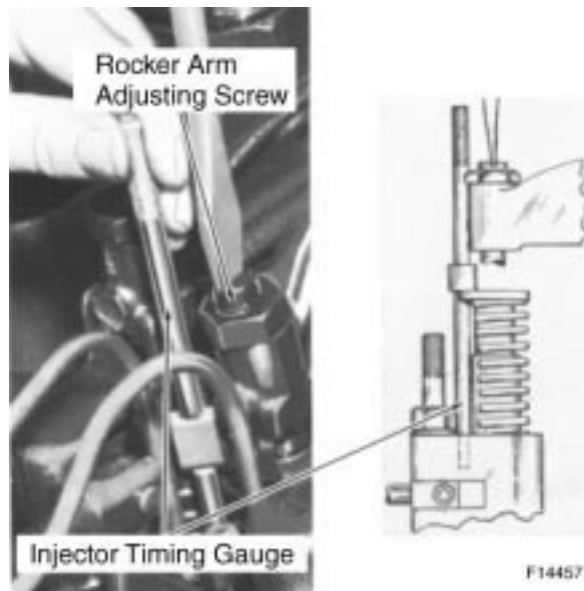

Figure 11-6. Timing MUI Injector .
2. Insert injector timing gauge into the hole provided for it in the injector body, Figure 11-6.